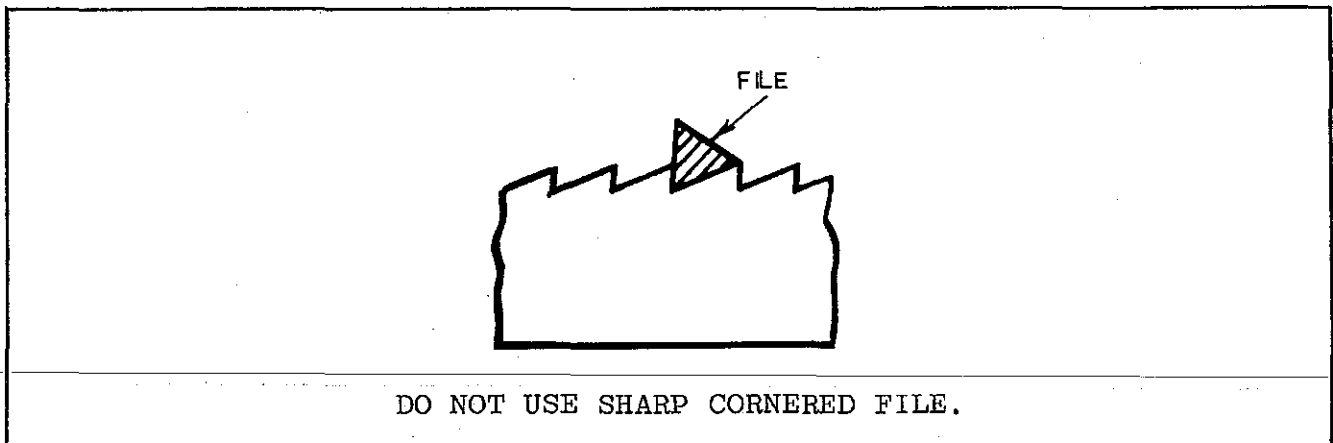

FIG 32
4. Sharpening with a sharp cornered file. See FIG.32.